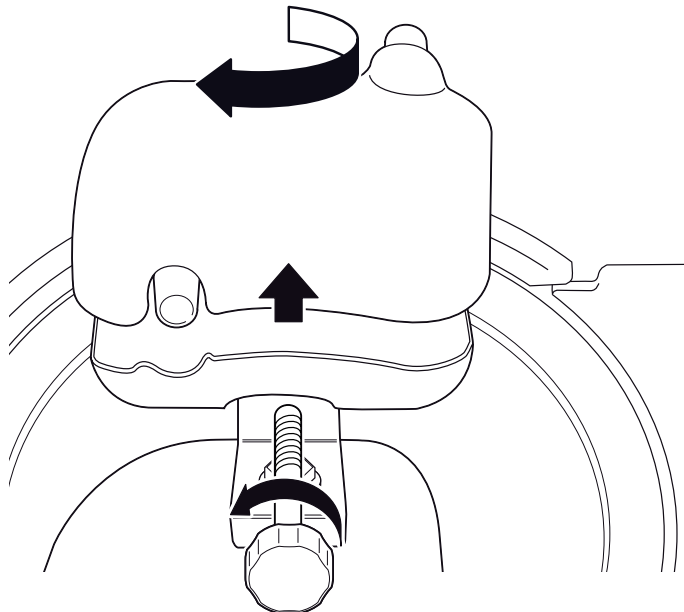

Fig. 13
3. Loosen the knurled nut that secures the grinder on the back (note: Fig. 13 shows the device from the back).